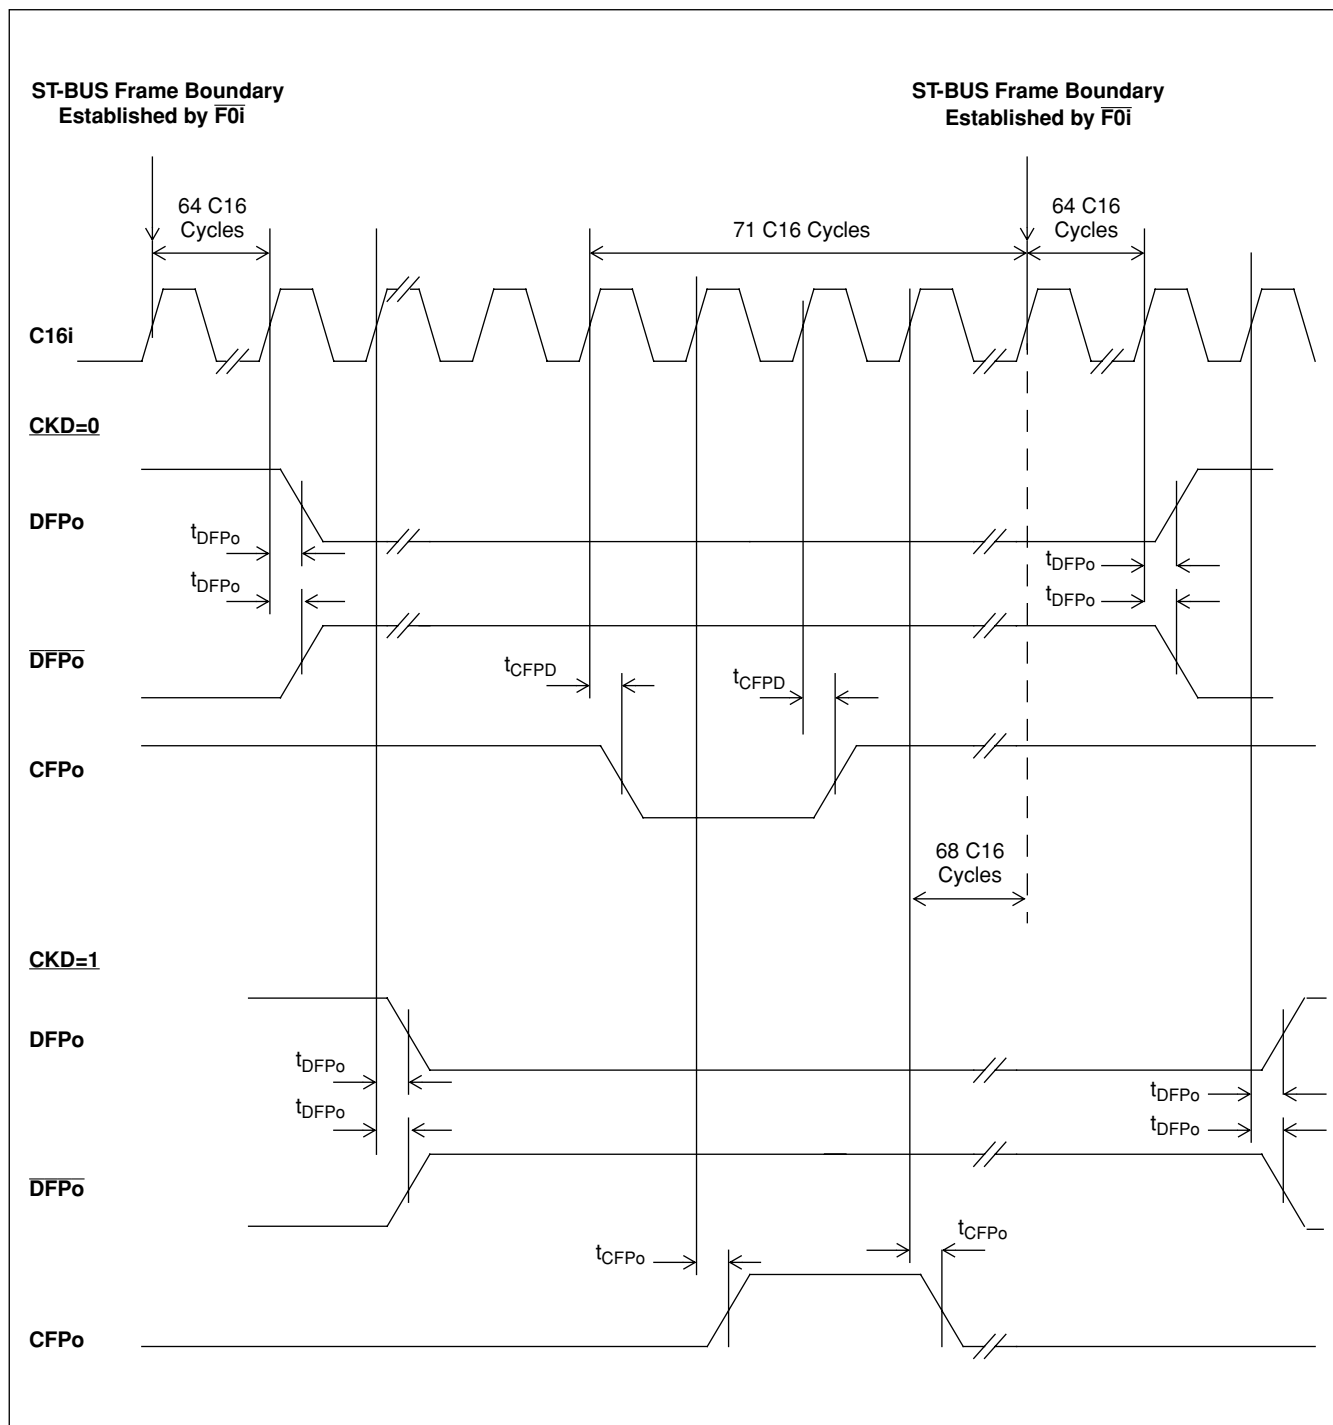

Figure 15 -  $\overline{DFPo}$  and  $\overline{CFPo}$  Output Timing
The PAC generates all framing signals necessary to construct a 1024 channel or a 2048 channel switch matrix using the SMX. The DFPO signal is used as a framing signal for the SMXs operated as the Data Memory. The CFPO is used to synchronize Connect Memory timing in a typical 1K or 2K switch application (refer to the application section in this data sheet for more information). The timing of both DFPO and CFPO signals is affected by the level asserted on the CKD input as shown in Figure 15.
**AC Electrical Characteristics† - Data Memory and Connect Memory Frame Pulse (See Figure 15)** - Voltages are with respect to Ground ( $V_{SS}$ ) unless otherwise stated.